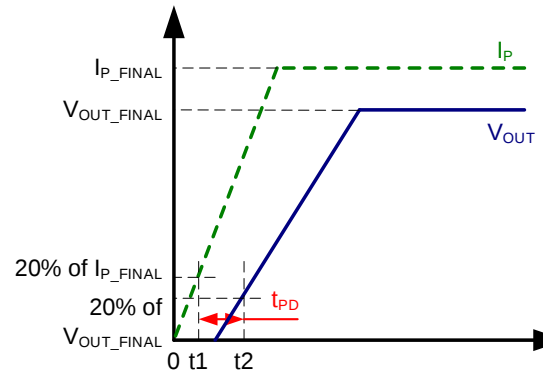

Figure 5: Propagation Delay (t_{PD})
2. t_2 : V_{OUT} reaches 20% of its final value, as it corresponds to the applied I_P (see Figure 5).